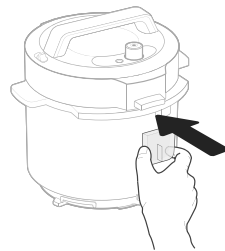

Figure 10.6
- 3. Replace the condensation collector. [Figure 10.6]